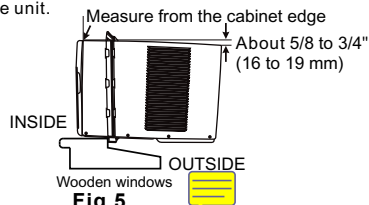

Fig. 5
- A. Keep a firm grip on the air conditioner, and carefully place the unit into the window opening so the bottom of the air conditioner frame is against the window sill (Fig. 5). Carefully close the window behind the top rail of the unit.